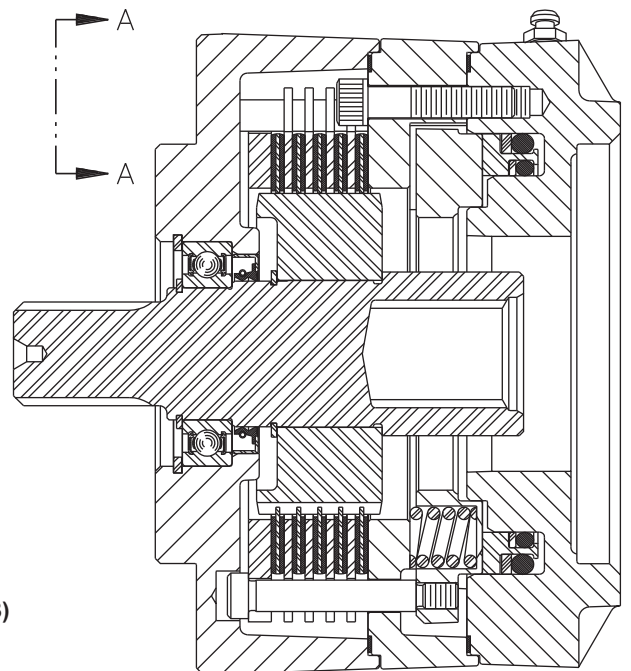

FIGURE 2
Slots in stator discs (12) engage with dowel pins in spring plate (16). See Figure 2.